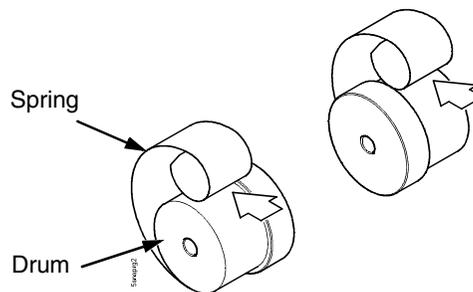

Figure 97. Removing the Constant Force Spring from the Drum
5. Lift the loose end of the constant force spring and let it curl up on the outside of the remaining spring and drum. (Figure 97.)
6. While holding the drum tightly, continue to curl the spring until it is completely unwound from the drum. (Figure 97.)